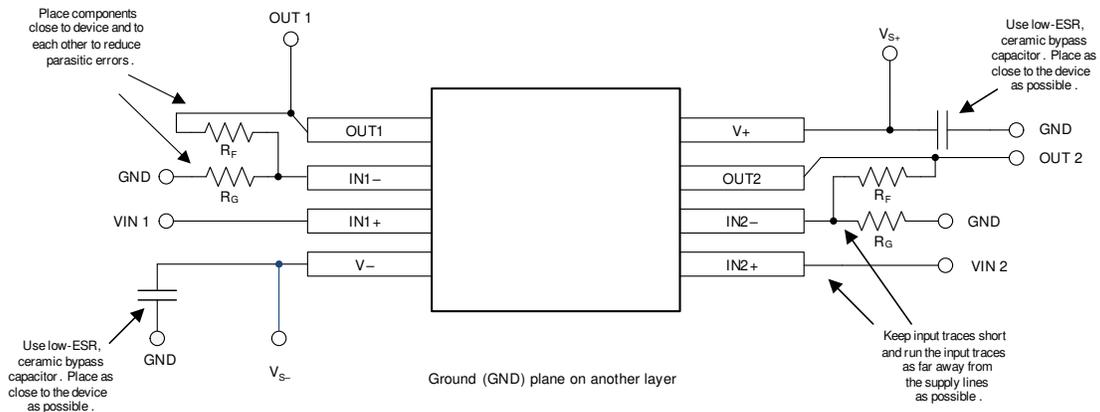

Figure 7-12. Layout Example
- Place the external components as close to the device as possible, as shown in Figure 7-12. Keeping  $R_F$  and  $R_G$  close to the inverting input minimizes parasitic capacitance.